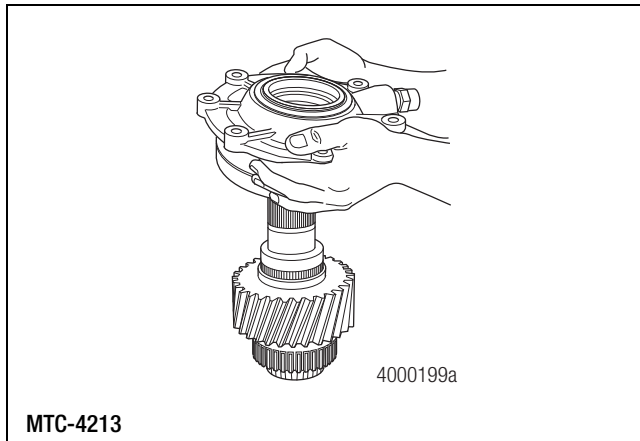

Figure 4.26
4. Lift the front input bearing cage and internal oil pump assembly, if equipped, off the input shaft. Figure 4.26.